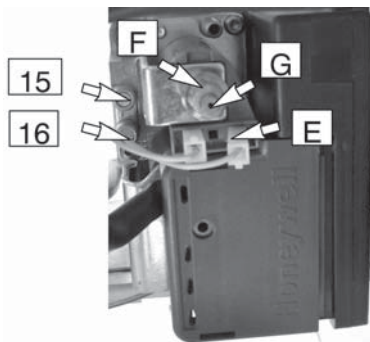

Figure 15.5
- Open the gas valve inlet pressure test point (16 in Fig. 15.5) at the valve input, connect a suitable pressure gauge and check the gas pressure of the supply network.
- Open the gas valve outlet pressure test point (15 in Fig. 15.5) and connect the gauge.
- Rotate the maximum gas pressure adjustment (F in Fig. 15.5) until you obtain the required pressure (by rotating clockwise the pressure increases).
- Turn the boiler off and disconnect one of the two connectors (E in Fig. 15.5).
- Start the boiler and rotate the minimum gas pressure adjustment (G in Fig. 15.5) until you obtain the required pressure (by rotating clockwise the pressure increases).
- Open the gas valve outlet pressure test point 15 (Figure 15.5) and connect the gauge.
- Close the gas valve outlet pressure test point 15 (Figure 15.5).